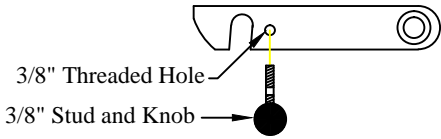

Figure 17: Original Series platform latch knob.
1. **Install** the two (2) knobs on the platform latches (Original Series only) see (Figure 17).